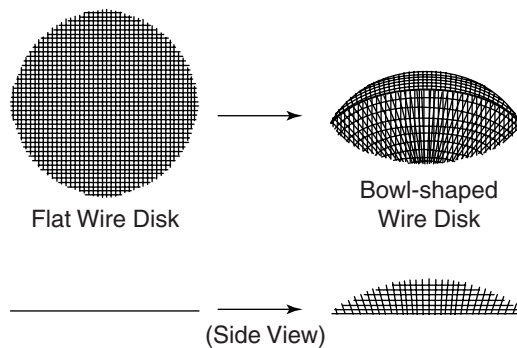

Figure 1.
2. Carefully bend one of the disks into a bowl shape (similar to a watch glass shape). Put pressure on the center of the disk with your thumbs and then evenly bend the edges of the disk with your fingers to form a bowl. See Figure 1. Be very careful not to cut yourself on the wire edges.